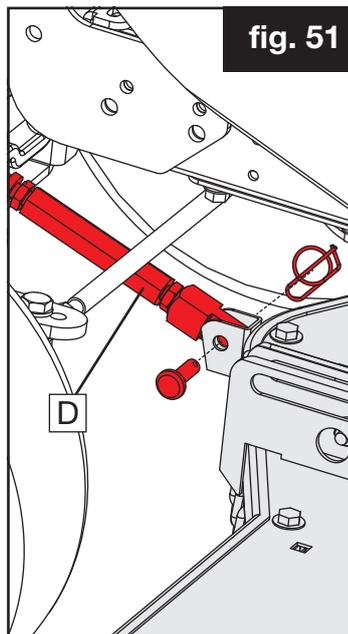

fig. 51
2. De-tension the Cutter Drive Belt by removing the tension rod from the front of the deck (fig. 51 - D). See tensioner setup section for rod installation guidance.